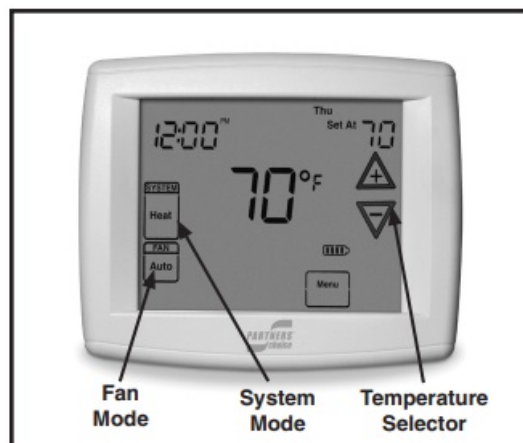

Figure 1. Digital Thermostat
1. Set the thermostat system mode to COOL and the thermostat fan mode to AUTO. See Figure 1.
1. Set the thermostat system mode to Heat and the thermostat fan mode to AUTO. See Figure 1.
- Set the thermostat system mode to OFF and the thermostat fan mode to AUTO. See Figure 1. NOTE: The system will not operate, regardless of the thermostat temperature selector's setting.
- Set the thermostat fan mode to ON (or CONT on some thermostat models). See Figure 1.
1. Set the thermostat's system mode to HEAT or AUTO and change the fan mode to AUTO. See Figure 1 (pg 3).
1. Set the thermostat system mode to AUTO and the thermostat fan mode to AUTO. See Figure 1 (page 3).
imbalance due to a solar load, cooking, or fireplace operation. Set the thermostat fan mode (Figure 1) to ON (or CONT on some thermostat models).
- Set the thermostat system mode (Figure 1) to OFF and the thermostat fan mode to AUTO. NOTE: The system will not operate, regardless of the thermostat temperature selector's setting.